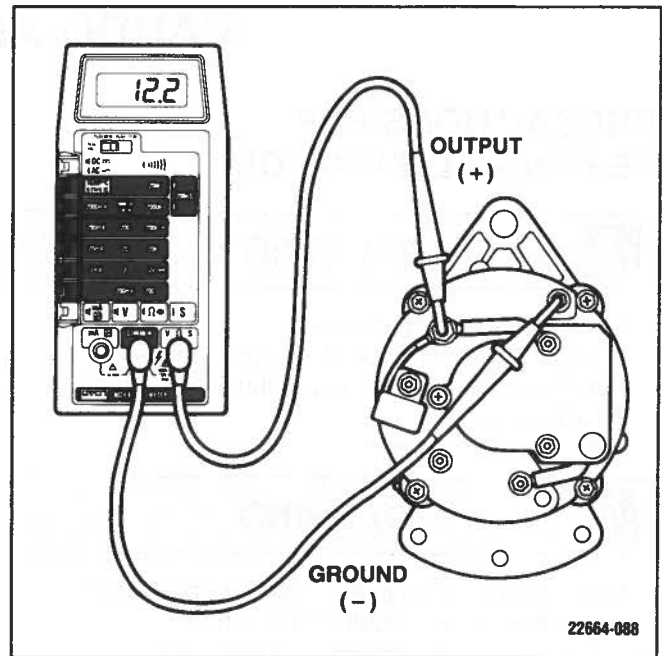

Figure 6-114. Testing Alternator Output Circuit
1. Connect positive voltmeter lead to alternator output terminal and negative lead to ground terminal on alternator. (Figure 6-114)